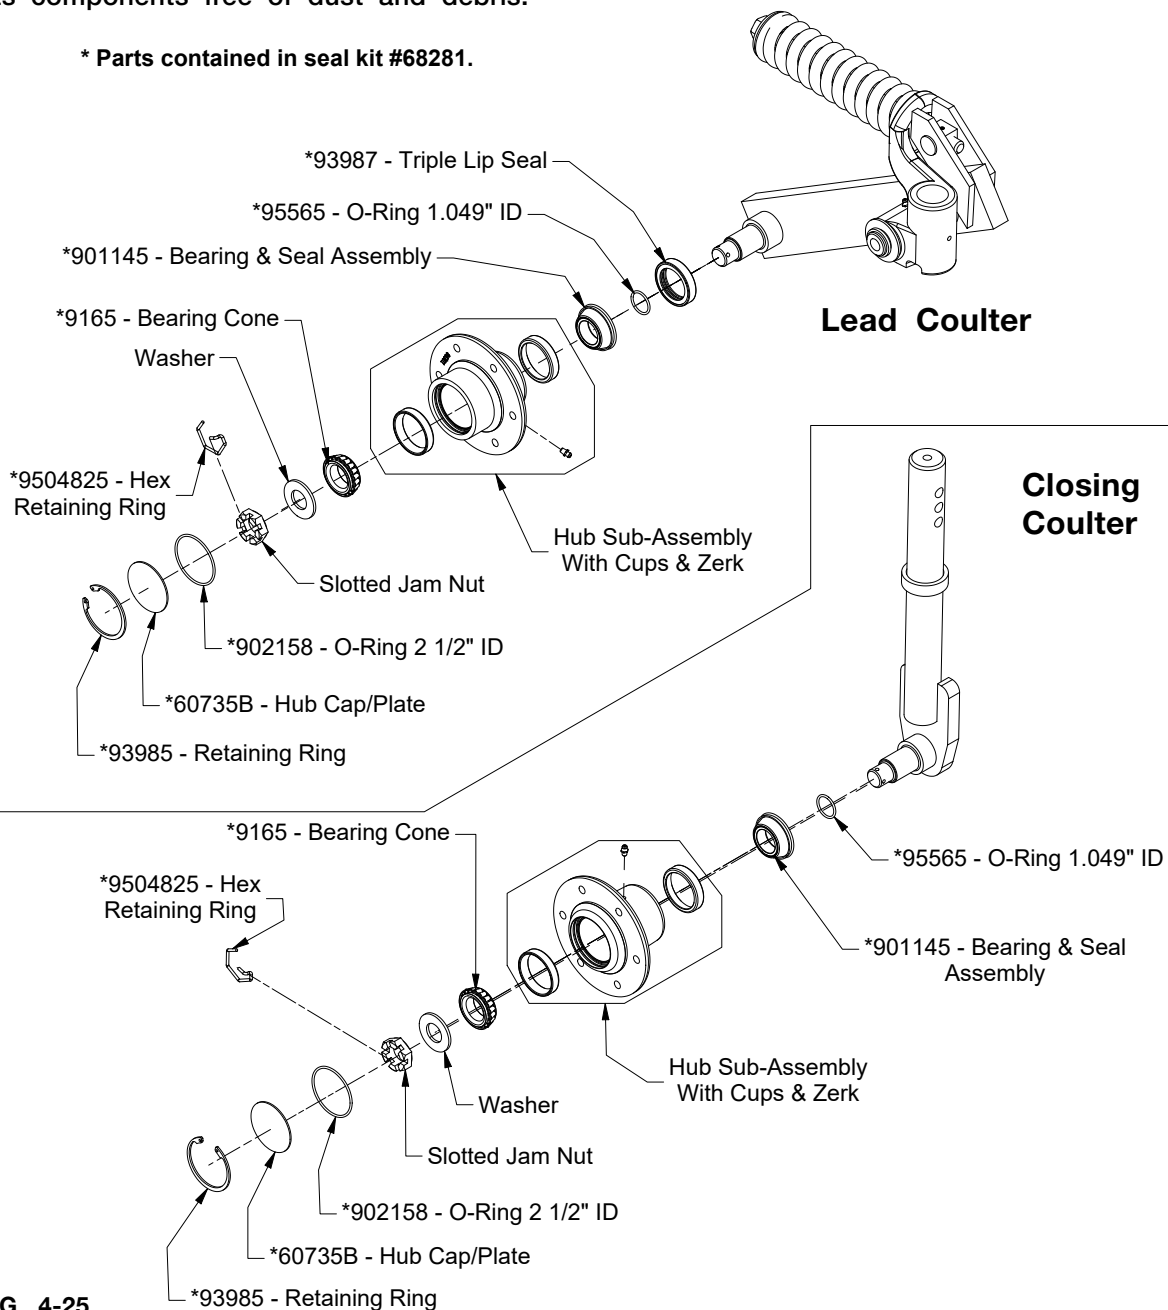

FIG. 4-24
10. Assemble the new 5/16"-18UNC capscrews through the holes in the frame and into the bearing housing (FIG. 4-24). Tighten screws according to Torque Chart, in this section.